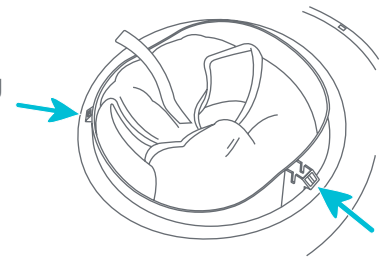

Fig. 2a
- 2 • Push the tabs inward to detach the seat from the top plate before assembling (Fig. 2a).